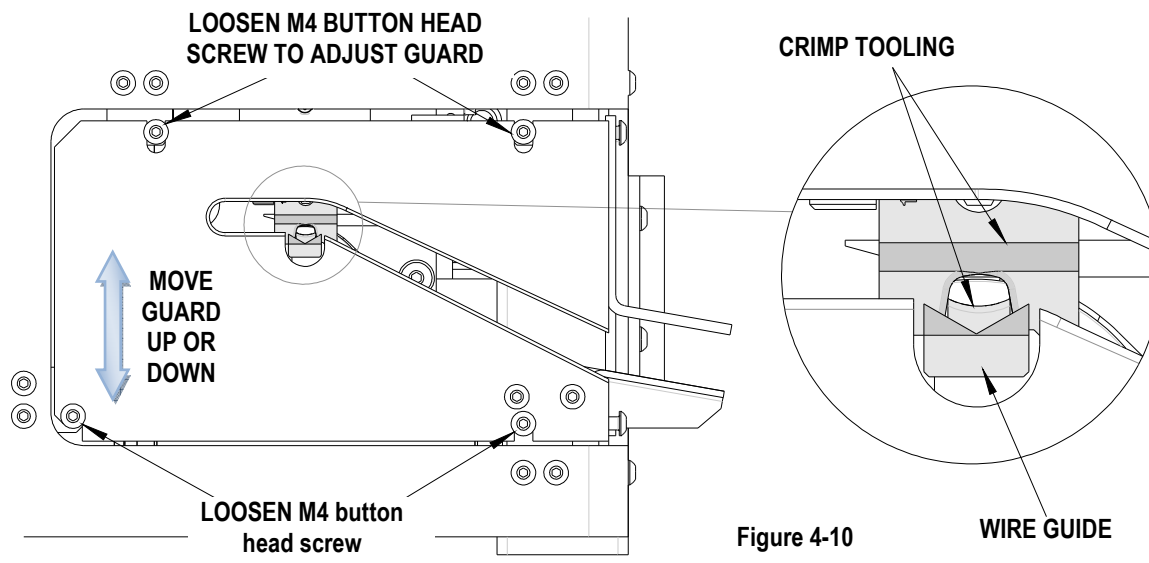

Figure 4-10
- The guard can be adjusted to achieve the correct height, to line up with the wire guide.. Loosen the M4 button head screw and adjust guard up or down. See Figure 4-10.